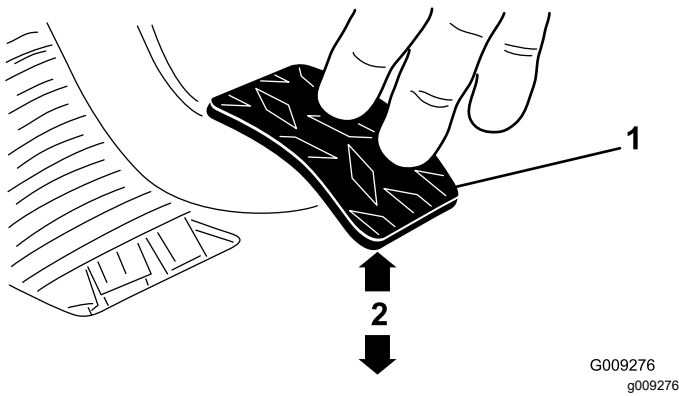

Figure 69
3. Adjust the jam nuts or ball joint until the back, rear edge of the clutch pedal is 9.5 ± 0.3 cm (3.75 ± 0.12 inch) from the top of the floor plate diamond pattern, when a 1.8 kg (4 lb) force is applied to the pedal (Figure 69).